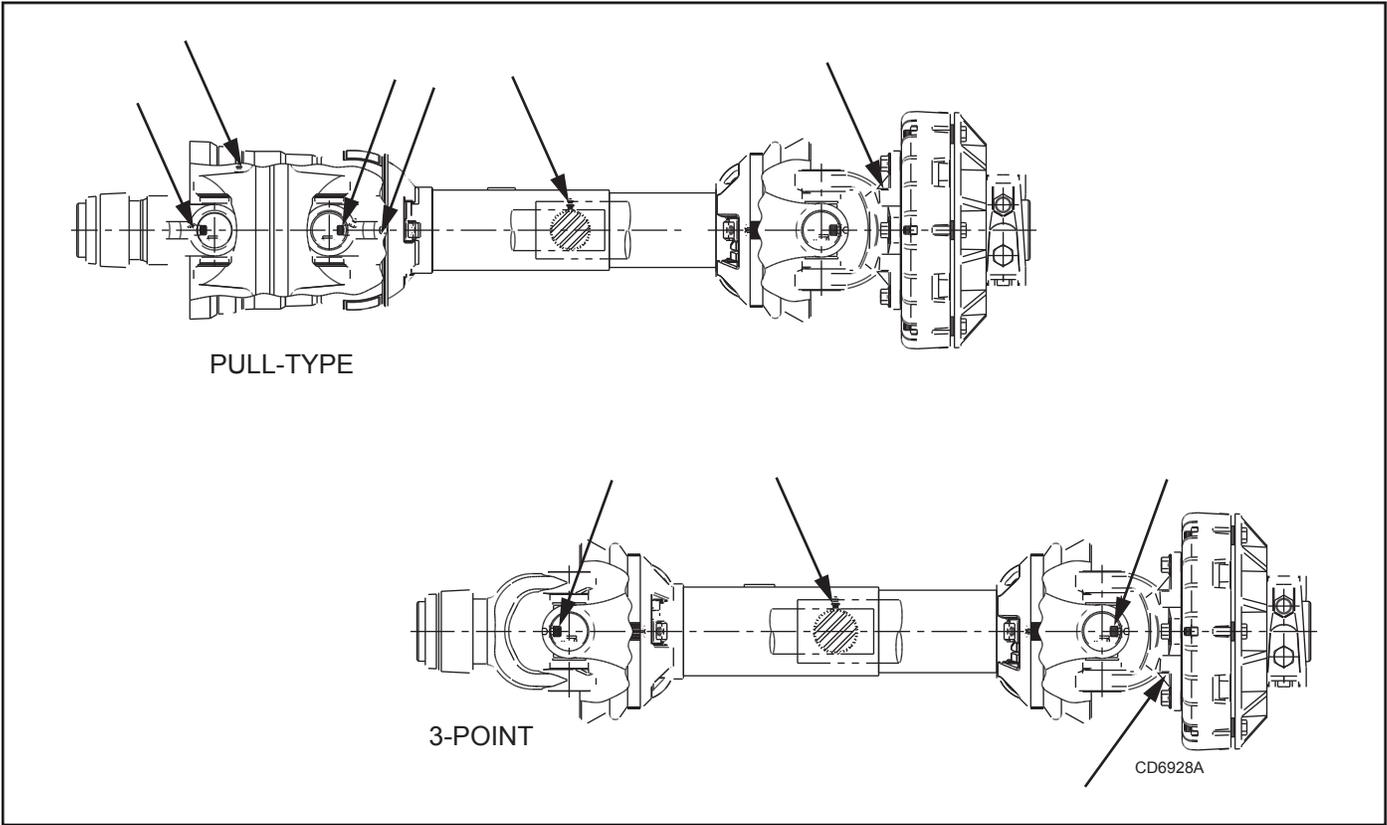

Figure 22. PTO Driveline Lubrication Points
**PTO Driveline.** Lubricate daily or every 8 hours of operation (every 4 hours if U-joints run at angles). See Figure 22 for lubrication points.